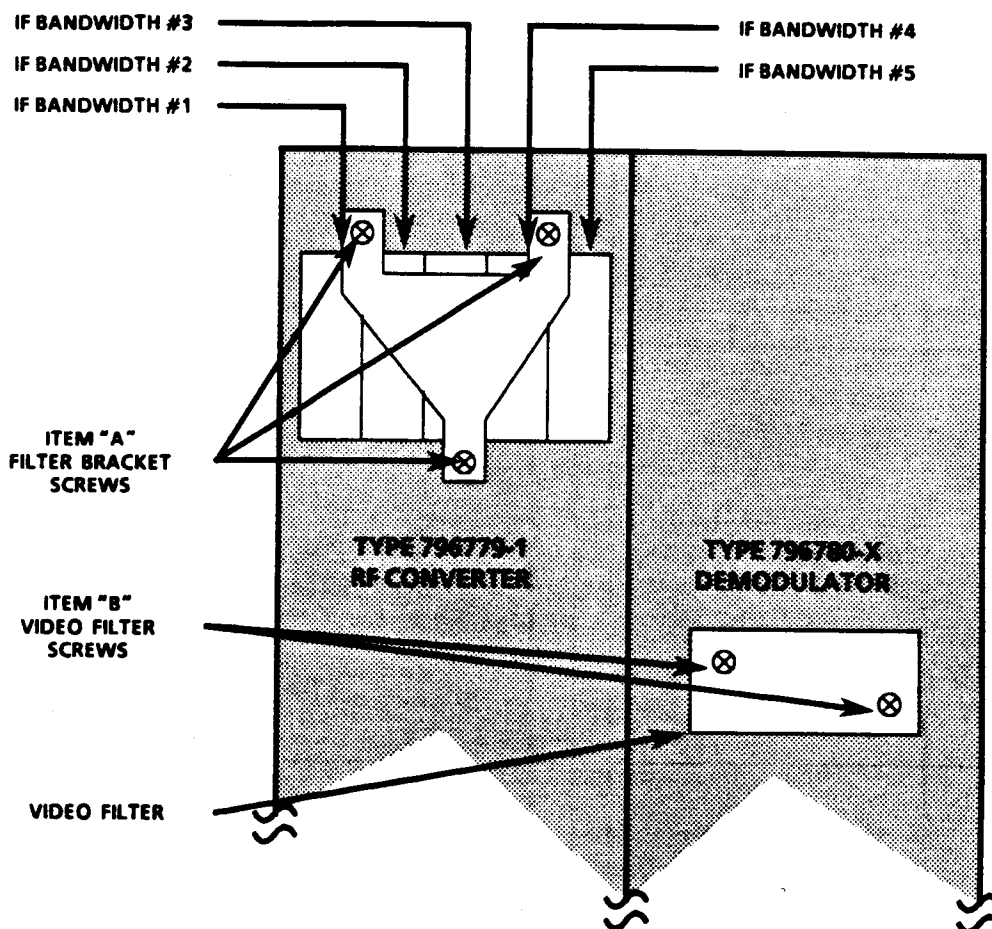

Figure A-1. IF Bandwidth and Video Filter Component Locations
3. Remove the three phillips head screws from the filter bracket (Item "A" in Figure A-1) and remove the bracket.
4. Locate the filter to be replaced and unplug it from its socket on the Type 796779-1 RF Converter Assembly (Refer to Figure A-1 for identification of the filter location).
2. Remove the two phillips head screws that secure the Video Filter to the Type 796780-1 Demodulator Assembly (Item "B" in Figure A-1).